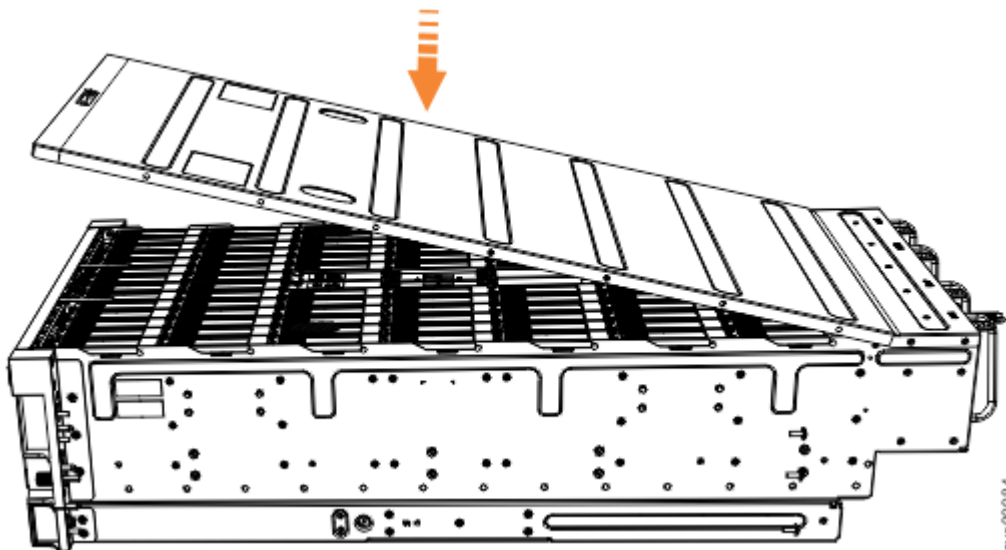

Figure 56. Aligning the 2077-92F top cover
1. Carefully lower the cover and ensure that it is aligned correctly with the back of the enclosure, as shown in Figure 56 on page 58.